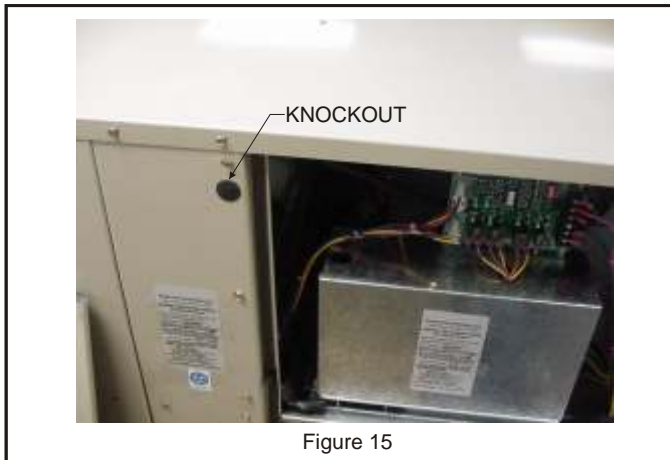

Figure 15
14. Connect line voltage power to ERS unit from ERS field provided or rooftop unit disconnect switch (disconnect must be properly sized). Then connect line voltage from disconnect switch through ERS knockout on middle post to control box per the wiring diagram. **See Figure 15 and 16.**